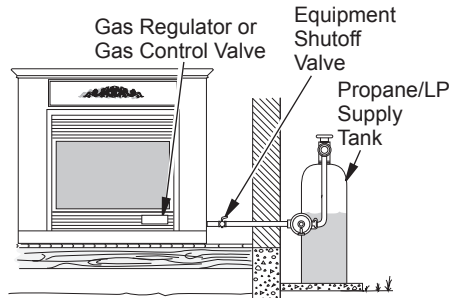

Figure 25 - Checking Gas Joints (Propane/LP Only)
3. Check all joints from gas meter to equipment shutoff valve for natural gas or propane/LP supply to equipment shutoff valve for propane/LP (see Figures 25 or 26). Apply noncorrosive leak detection fluid to all joints. Bubbles forming show a leak.
4. Check all joints from equipment shutoff valve to gas regulator (Thermostat-Controlled Models), or to gas control valve (Remote-Ready Models) (see Figures 25 or 26). Apply noncorrosive leak detection fluid to all joints. Bubbles forming show a leak.